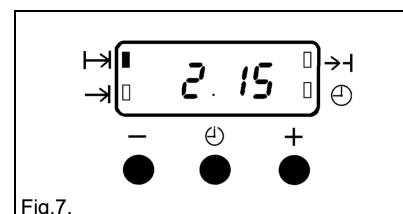

Fig.7.
- iii) To set the length of cooking time, press the Selector control button (⊖) until the 'Cook Time' indicator is illuminated (|→). Press the increase control (+) until the required length of cooking time is displayed, e.g. 2 hrs 15 mins as Fig. 7. If necessary depress the decrease control (-) until the correct time interval is achieved.